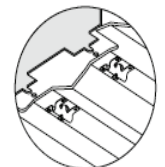

Figure 2
3. Tighten by squeezing with pliers and a quarter turn either direction to secure the reflector/ballast cover to the bracket (figure 2).